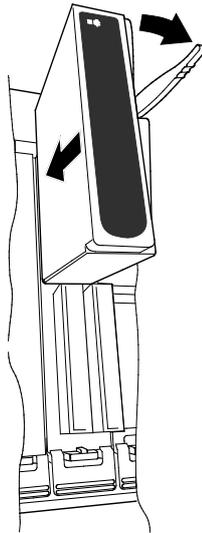

Figure 1-5: I/O Module (Side View)
1. Pull the module retaining lever forwards into the unlocked position as shown in Figure 1-5.